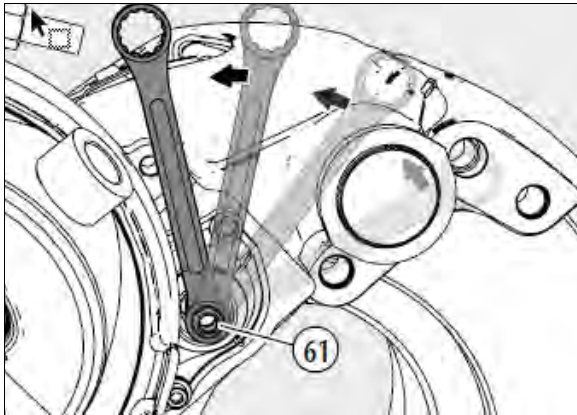

FIGURE 40: TURN ADAPTER 3 CLICKS ANTICLOCKWISE
14. Turn the adjuster with adapter (61) **3 clicks** anticlockwise (increasing the air gap) (see Figure 40).